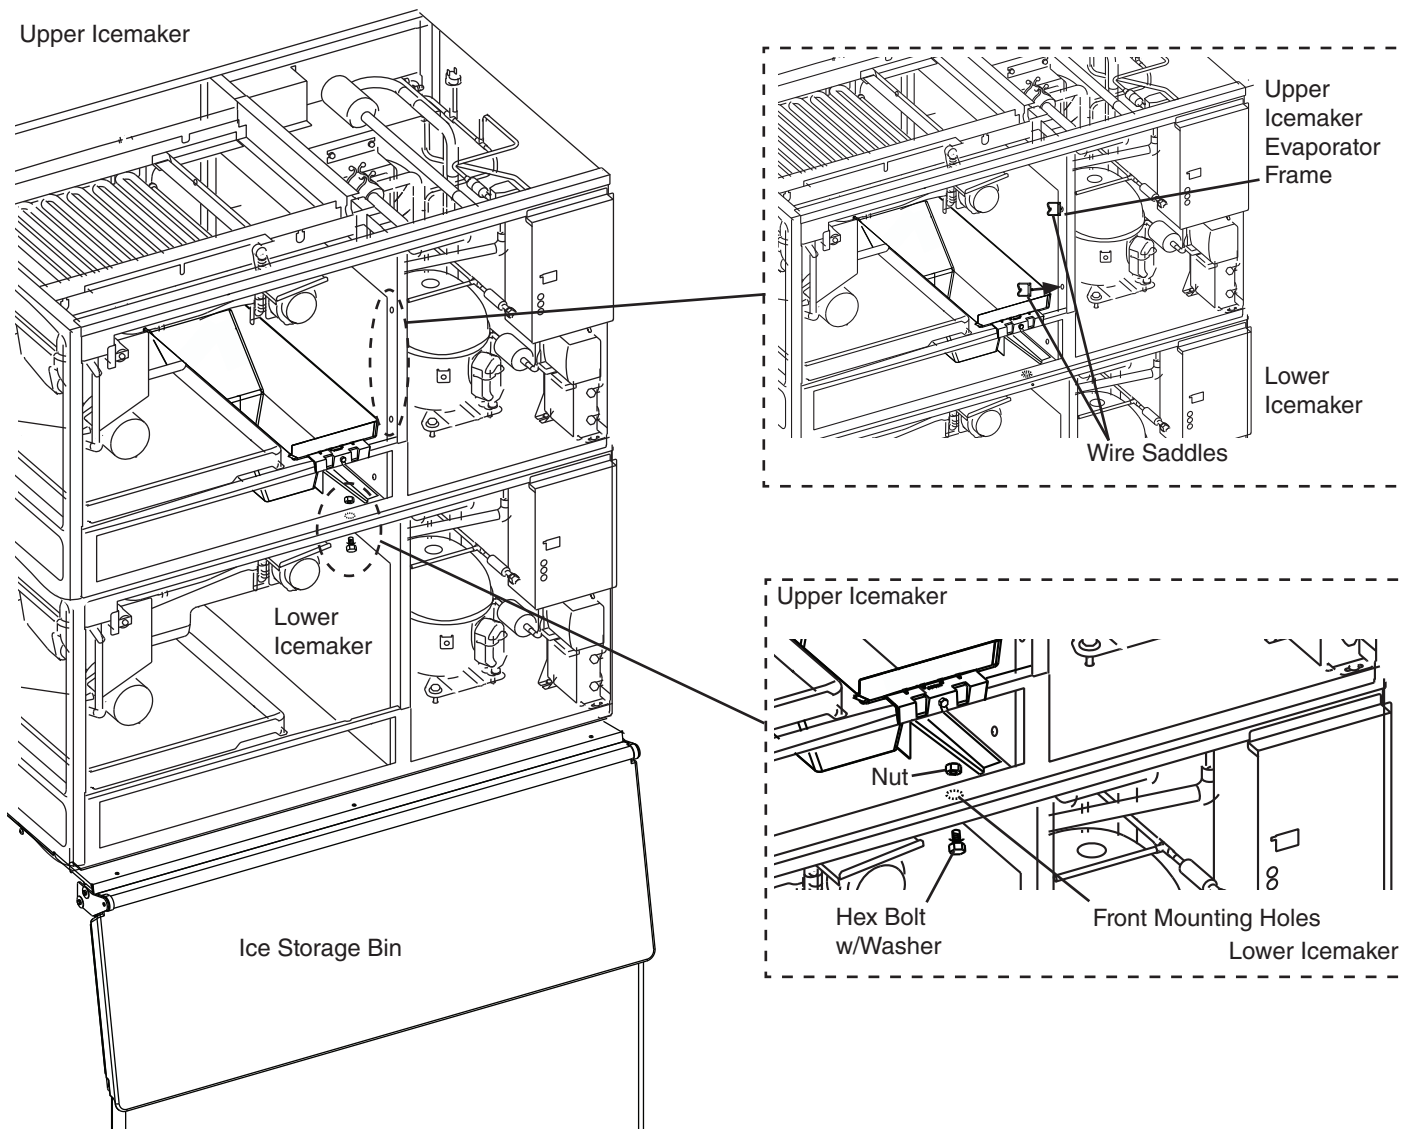

Fig. 13
- 22) Secure the upper icemaker to the lower icemaker using the remaining hex bolt w/washer and nut provided in this kit. See Fig. 13.
- 23) Place the wire saddles provided in this kit, into the upper icemaker evaporator frame. See Fig. 13.